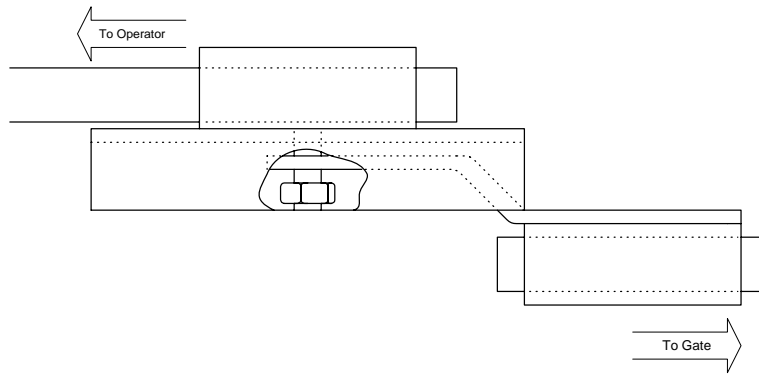

Figure 16
4. Slide the connector assembly (Figure 16) onto the crank arm so that the flange is away from the gate.